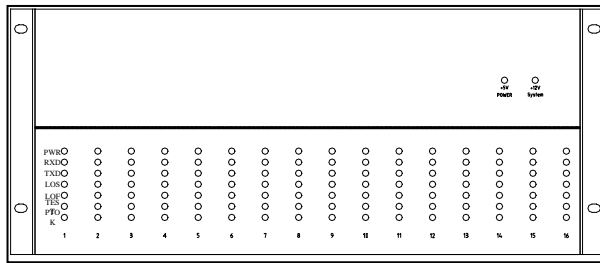

Figure 5 Front panel of RACK
- The front panel of RACK is shown in figure 5.